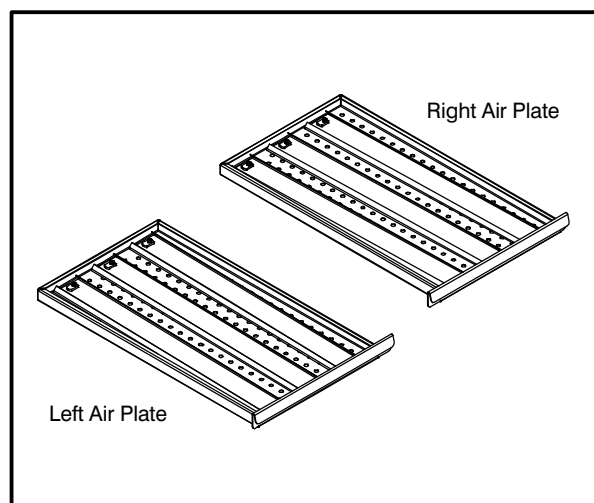

FIGURE 3
1. Inspect the orientation of the air plates. Refer to FIGURE 3.